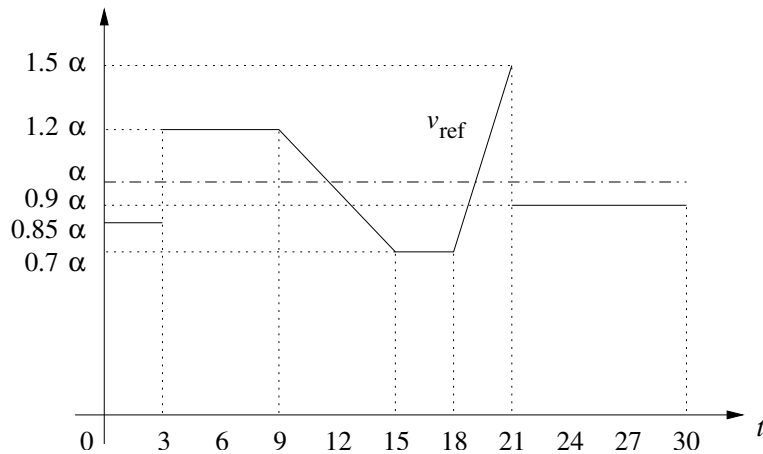

Figure 3: The reference speed signal to be used.
**Step 2.9:** Assume  $\lambda = 0.1$  (in general, an appropriate value of  $\lambda$  is determined by taking into account the nominal values of  $J_{\text{track}}$  and  $J_{\text{input}}$  and by some tuning and iteration). Consider two combinations of  $N_p$  and  $N_c$ : first the combination  $(N_{p,1}, N_{c,1}) = (5, 4)$  which is the same for all groups, and another combination  $(N_{p,2}, N_{c,2})$  that you may select yourself with  $N_{p,i} \in \{7, 8, 9, 10\}$  and  $1 < N_{c,i} < N_{p,i}$ . For each combination run your program for the time interval  $[0, T_{\text{end}}]$  with  $T_{\text{end}} = 25$ , for  $v(0) = 0.9\alpha$  where  $\alpha$  is the value found in Step 2.2, and for the speed reference signal  $v_{\text{ref}}$  which defined as follows (see also Figure 3):